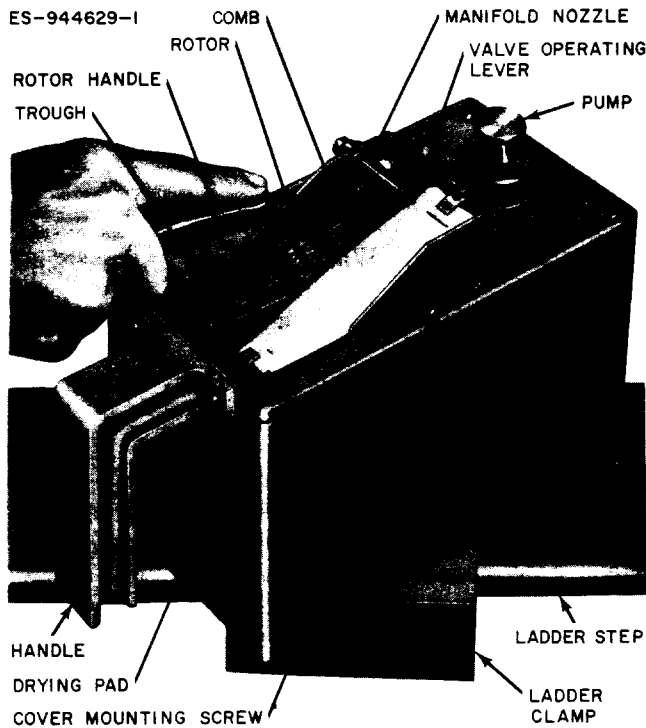
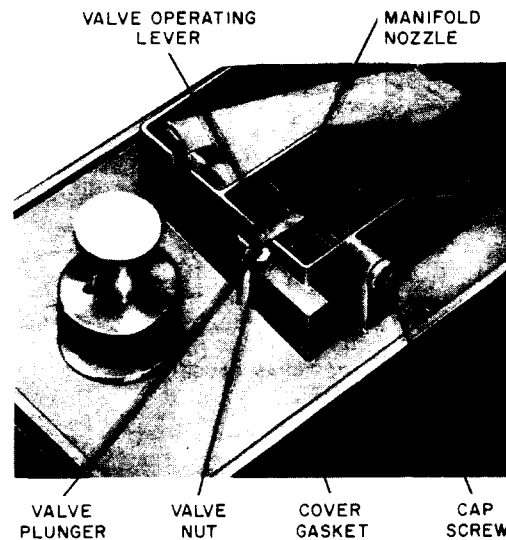

Fig. 7—Method of Flushing KS-16062 L2 Rotor Using KS-16297 L50 Flushing Unit
Fig. 8—Partial View of KS-16297 L50 Flushing Unit Showing Manifold Nozzle and Associated Parts
5.03 KS-16297 L50 (MD) Flushing Unit
(Fig. 7 and 8): The flushing unit is provided to flush and apply KS-16436 L1 or L2 washing fluids to the rotor discs at the bank cleaner. The procedure for using the KS-16297 L50 flushing unit is discussed in (1) through (7).
(1) The flushing unit contains two receptacles, one for used and the other for fresh KS-16436 L1 or L2 washing fluid. The tank of the unit serves as the receptacle for used fluid. Fresh liquid is poured into the can fastened to the underside of the cover of the unit. The can fits in the tank when the cover is in place on the tank.
(2) The cover of the unit has an inclined trough with a comb of eight wires extending the length of the trough. At the upper end of the trough, the manifold nozzle feeds fresh liquid, under pressure, to the rotor discs being flushed when the associated valve is opened by pressing the rotor discs against the valve operating plate. The valve can also be opened manually by depressing the lever on the operating plate to flush the KS-16365 wiper cleaner used for cleaning wipers and commutator contacts. A coil spring on the lower part of the valve plunger holds the valve closed and the valve operating plate in its normal position. At the lower end of the trough are several holes for draining used liquid into the tank.
(3) The fresh liquid passes through a filter before entering the manifold nozzle. The filter is held in a retainer which screws against the flared end of the nozzle and holds the nozzle in position. The cap screw shown in Fig. 8. closes the access hole to the filter and nozzle.
(4) Adjacent to the flushing trough is the drying pad for removing excess liquid from the rotor discs after flushing. This pad should be replaced after approximately 25,000 banks have been cleaned. Replacement is recommended after this use because of wear and clogging of the pad, which reduces its absorbent properties.
(5) The fresh liquid is put under pressure by the pump mounted on the cover of the unit and extending into the can containing the fluid.
(6) The flushing unit is filled with fresh liquid by removing the pump and pouring the liquid from the washing fluid can through a commercially available funnel into the flushing unit tank or if still available the KS-16366 filler can. Used liquid is drained from the tank by removing the drain plug in the opposite end of the tank from the handle.
(7) The flushing unit is mounted on a U-shaped spring clamp to hold the unit to the step of a ladder as shown in Fig. 7. A swivel joint is provided between the unit and the clamp so the unit may be positioned on the ladder step as desired. The bottom of the clamp serves as a base when the flushing unit is placed on a flat surface. The unit is also equipped with a handle at one end.
(1) Position the rotor in the trough of the flushing unit so six wires of the comb are sandwiched between the discs of the rotor and the remaining wires are against the outer surfaces of the end discs as shown in Fig. 7. Roll the rotor to the upper end of the trough against the valve operating plate, thus opening the valve, and saturate the rotor with KS-16436 L1 or L2 washing fluid.
(2) While maintaining pressure against the trough, roll the rotor back and forth three or four times without opening the valve. This removes some of the excess liquid from the rotor. Remove the rotor from the trough and roll it three or four times over the adjacent drying pad to further remove excess liquid. Press the rotor against the pad during this operation.
(1) Position the rotor in the trough of the flushing unit so that six wires of the comb are sandwiched between the discs of the rotor, and the remaining wires are against the outer surfaces of the end discs as shown in Fig. 7. Roll the rotor to the upper end of the trough against the valve operating plate, thus opening the valve, and flush the rotor with KS-16436 L1 or L2 washing fluid.
(2) While maintaining pressure against the trough, roll the rotor back and forth, making sure that it is saturated with liquid at the upper end of every third or fourth stroke. These operations remove the sludge and debris from the discs. When the liquid in the trough appears clear, roll the rotor back and forth three or four times without opening the valve. This removes some of the excess liquid from the rotor. Remove the rotor from the trough and roll it three